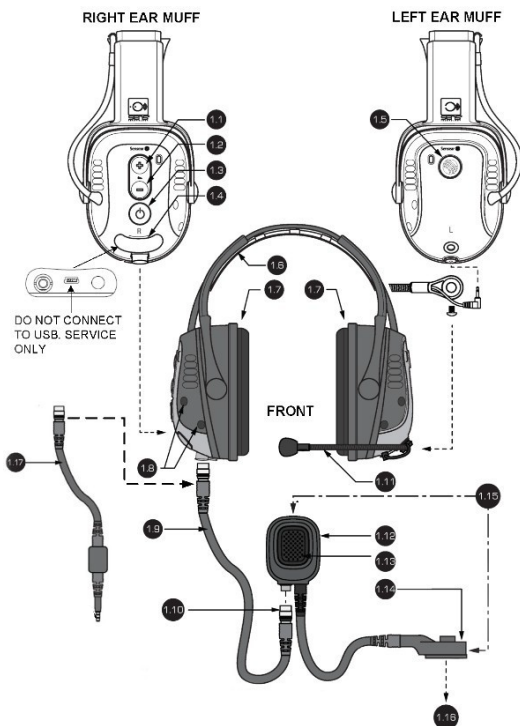

FIGURE 1
1. Press and release the “Power” button shown in Figure 1.